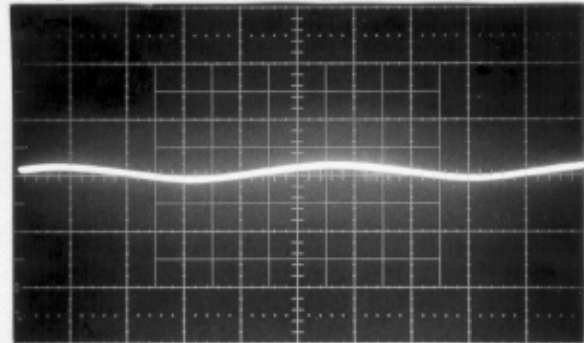

Fig. 14. 300W Amp - Freq at 0.
- 10) Compare 300W output to Fig. 14.